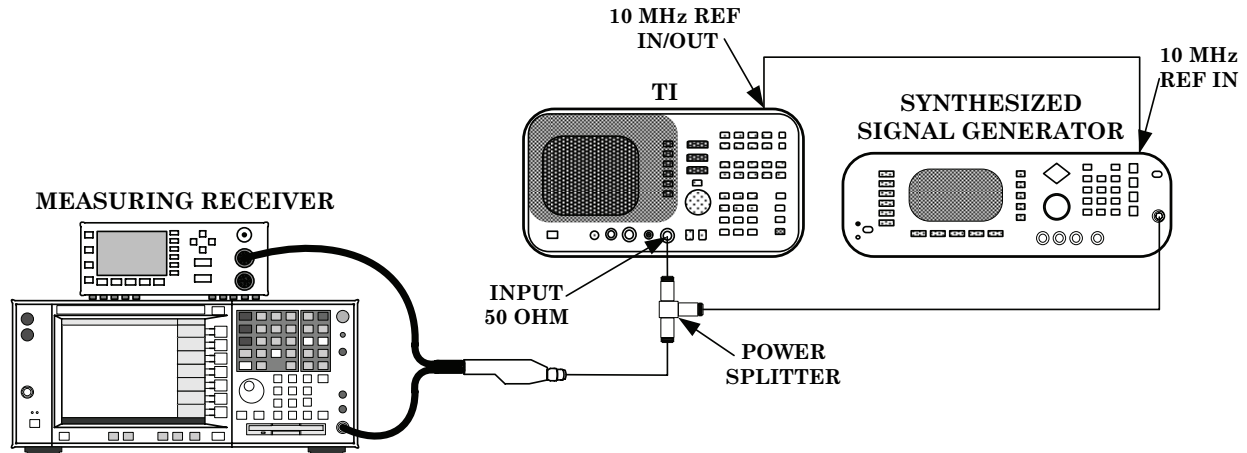

Figure 4. Frequency response - equipment setup.
- (1) Connect equipment as shown in figure 4.